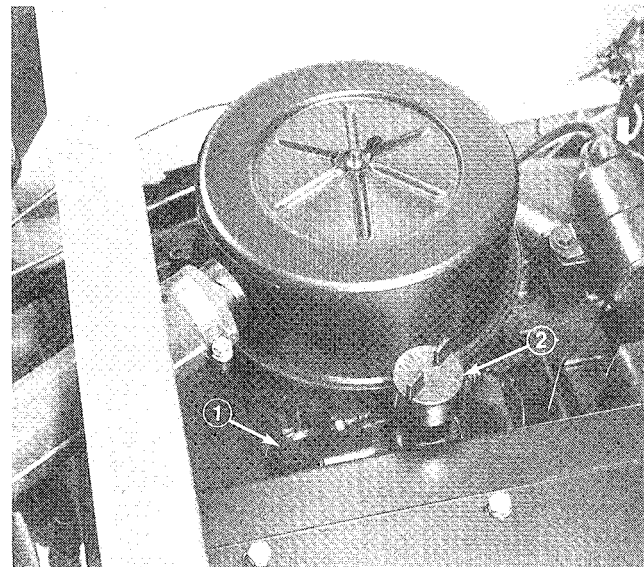

Figure 7
2. Remove dipstick and wipe it with a clean rag. Push dipstick down into dipstick tube and make sure it is seated fully. Pull dipstick out and check level of oil (Fig. 7). If oil level is low, add enough oil to raise level to FULL mark on dipstick.